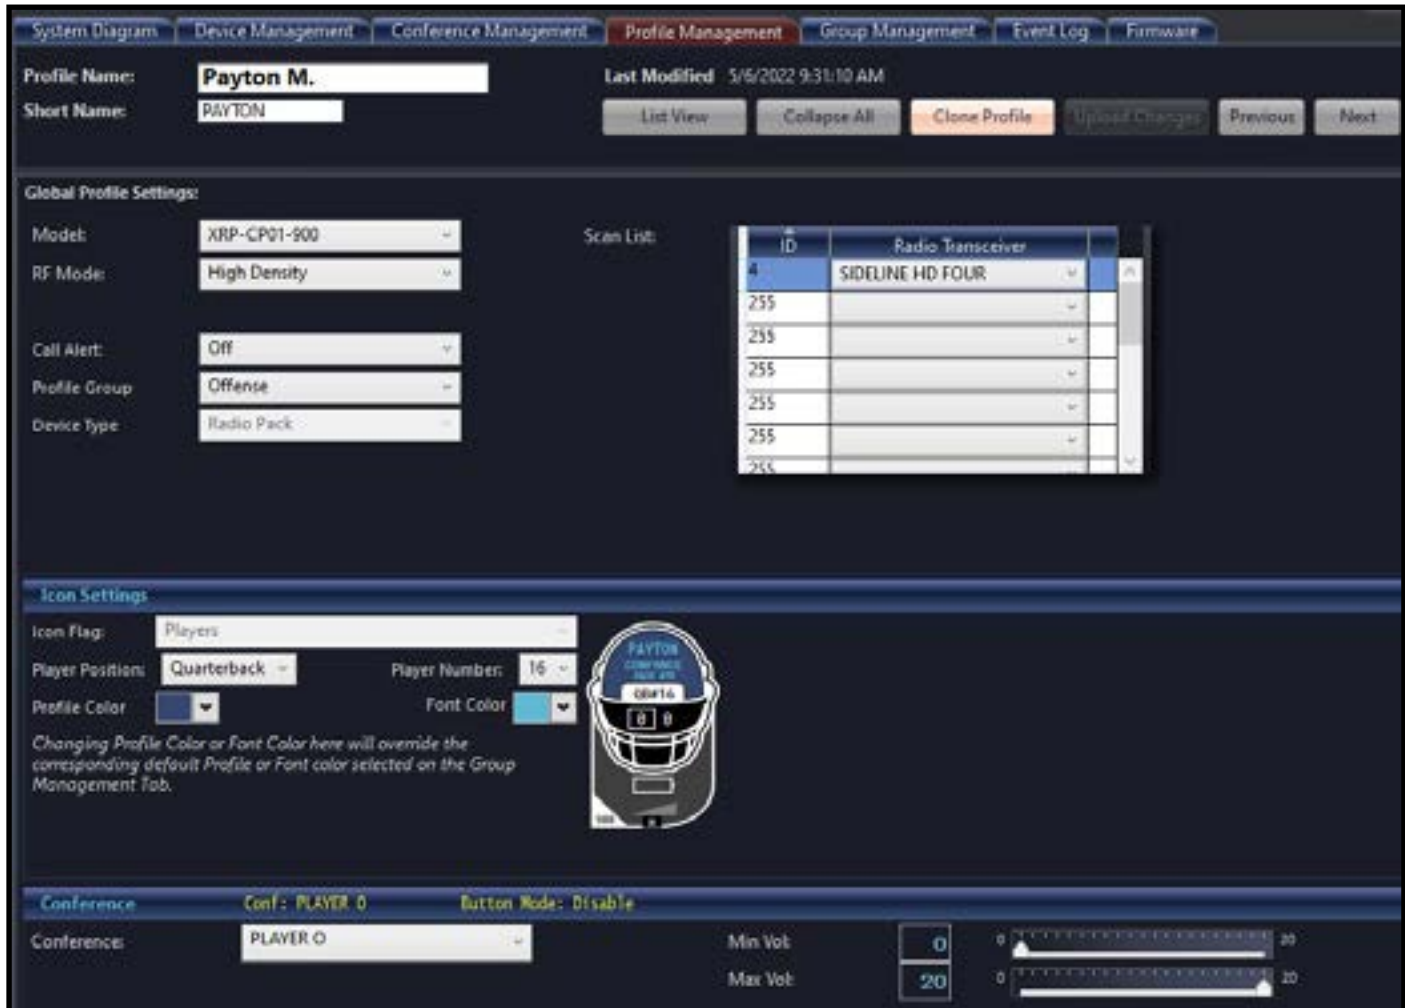

Figure 138: X-System Player Profile Example
3. Customize the Player Position and Number in the Icon Settings. See Figure 138 for an example of an X-System Player Profile.